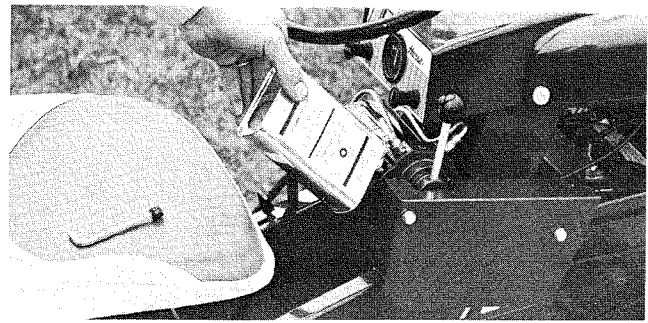

Figure 9
12. Remove the allen screw from the side of the pump and fill with hydraulic fluid. After filling replace and tighten screw. **CAUTION: USE ONLY WHEEL HORSE OIL (NUMBER 4822)** (See Figure 9)